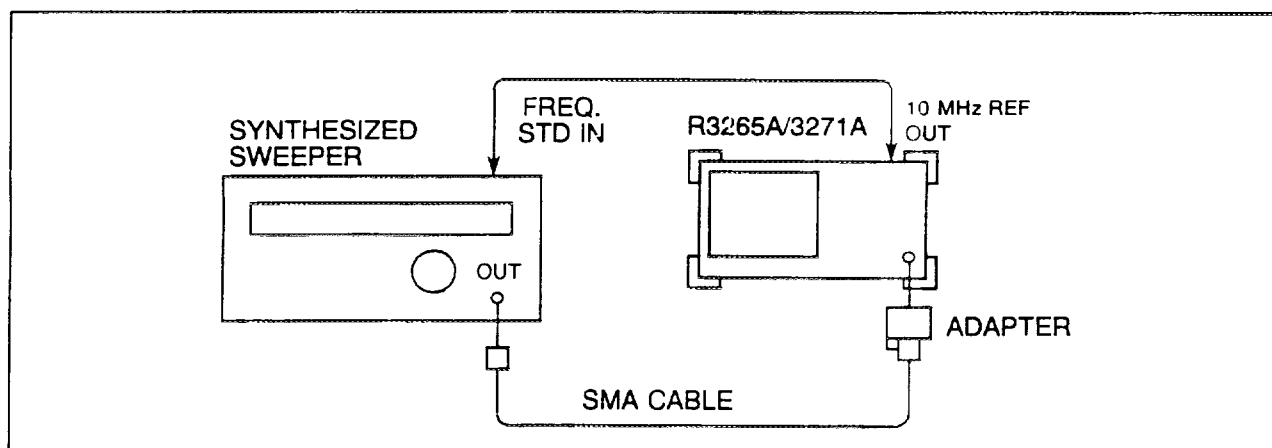

Figure 4-6 Frequency Span Accuracy Test Setup
(1) Connect the equipment as shown in Figure 4-6.
(2) Set the TR4515 controls as follows: